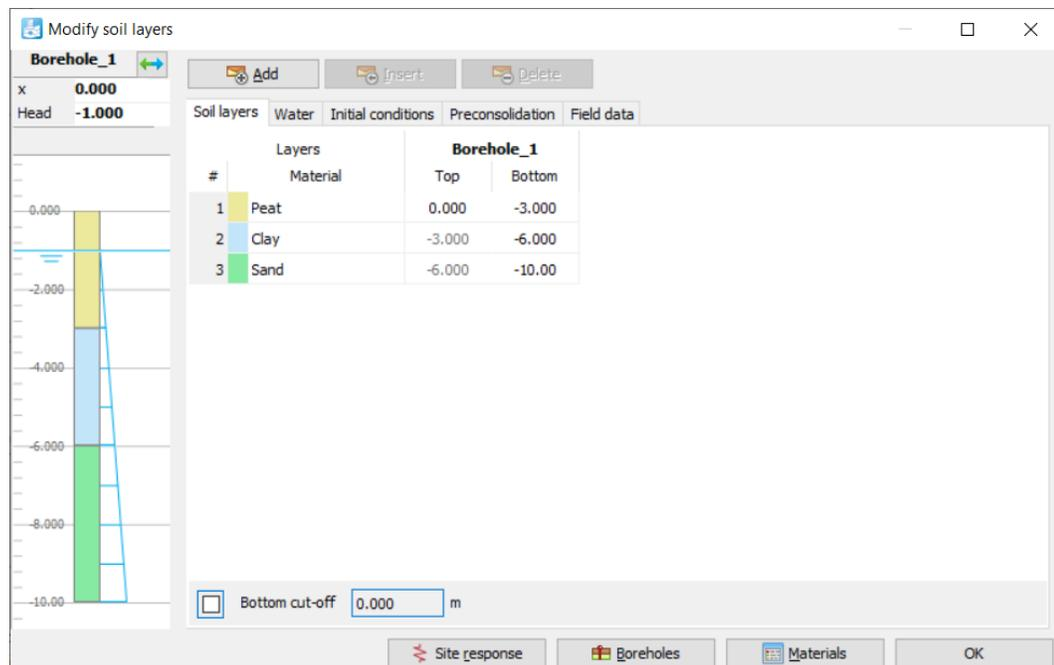

Figure 107: Soil layer distribution
1. Click the **Create borehole** button  and create a borehole at $x = 0$. The **Modify soil layers** window pops up as shown in Figure 107 (on page 128).
2. Create soil material data sets according to Table 20 (on page 129) and assign them to the corresponding layers in the borehole (see Figure 107 (on page 128)).